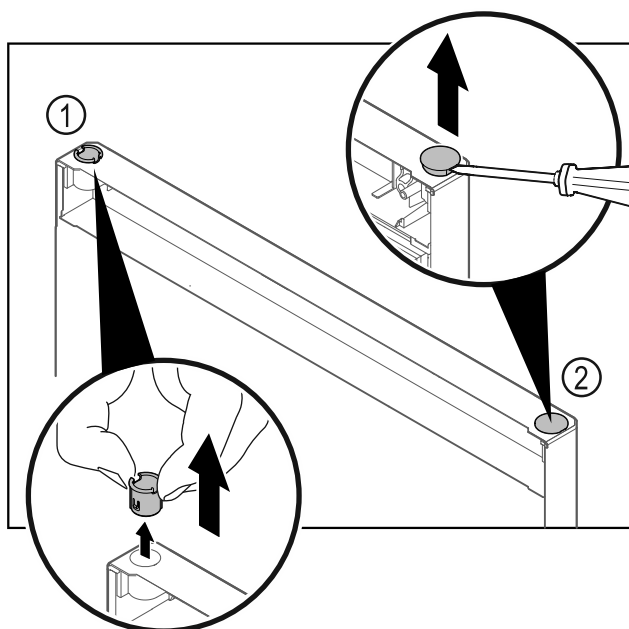

Fig. 29 Freezer compartment door
- Pull out the hinge bushing *Fig. 29 (1)* with your fingers.
- Carefully lift the cover plug *Fig. 29 (2)* with a slotted screwdriver and pull it out.